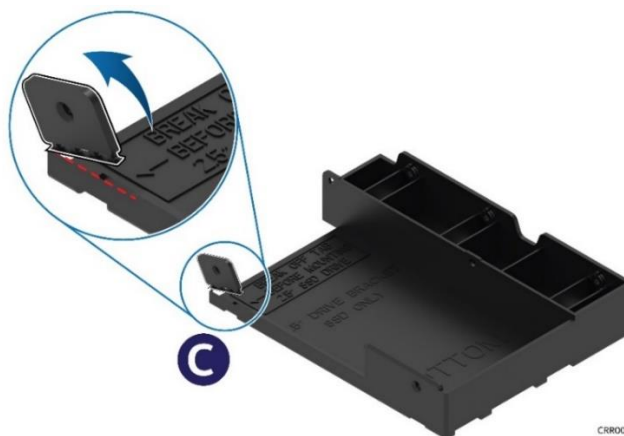

Figure 32. 3.5" Drive Blank to 2.5" SSD Mounting Bracket Conversion
1. Convert the drive blank into a mounting bracket (see Figure 32)